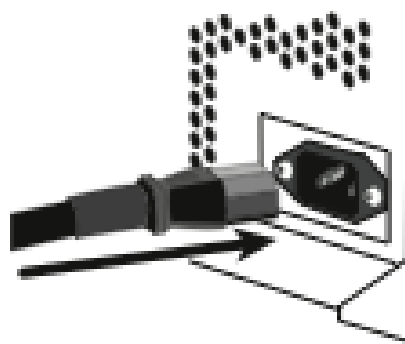

Fig. 4
7. Plug in the recommended undamaged IEC-GFI cord properly into the side of the machine itself as in Fig. 4 and then into a live 120vAC circuit or a 1000 generator that can handle an 8.6 Amps start-up. **REMEMBER TO NEVER USE AN ECO MODE ON ANY GENERATOR. TURBINE BLOWER WILL NOT START AND THIS MAY DAMAGE THE COMPRESSOR'S START CAPACITOR.**